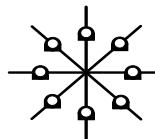

Figure 14 -
**2.202** Position light PB Indicators of the type shown in Figure 14 are located in advance of the PB sign.